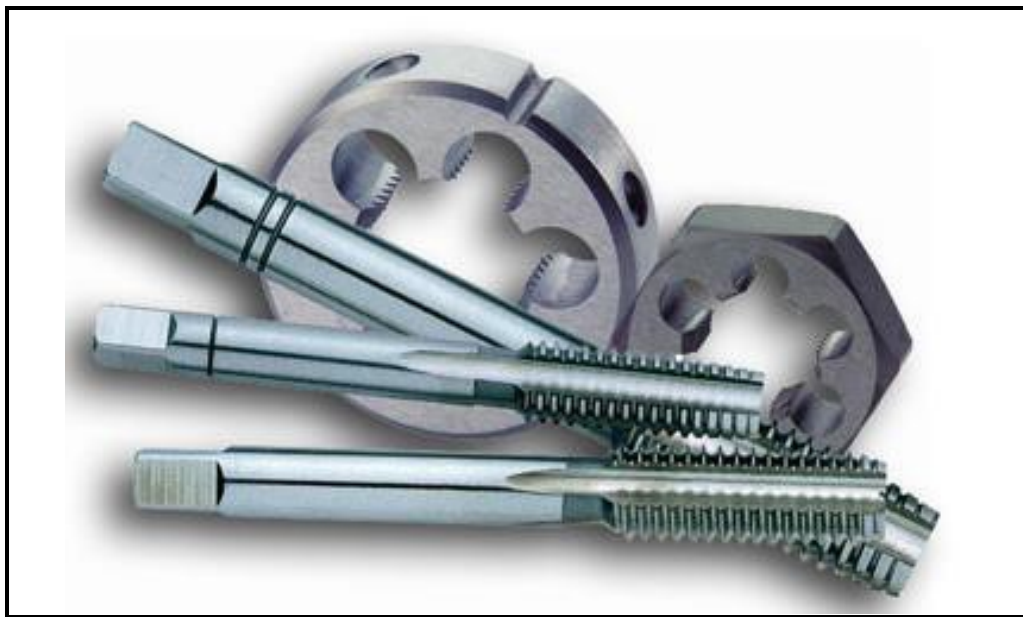

FIGURE 1.10
- D Understand the operating instructions applicable to the machine (1)
1.10 Identify the tools displayed in FIGURE 1.10 below.